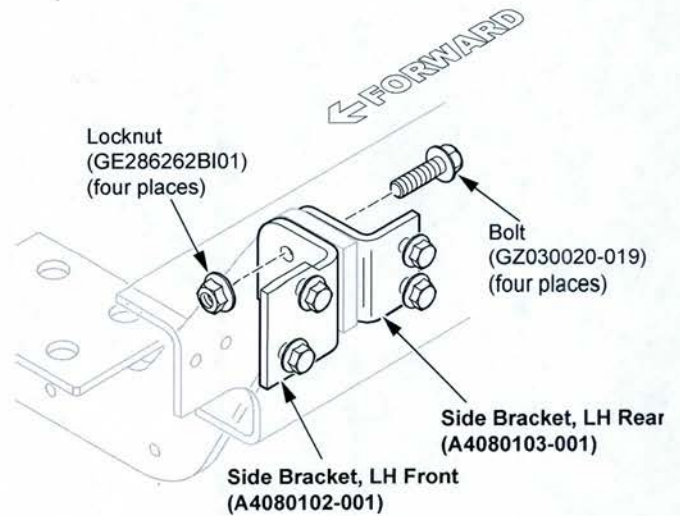

Figure 5
17. Install four (GZ030020-019) bolts and four (GE286262BI01) locknuts to the side bracket, LH front and side bracket, LH rear and cross member (see Figure 5).